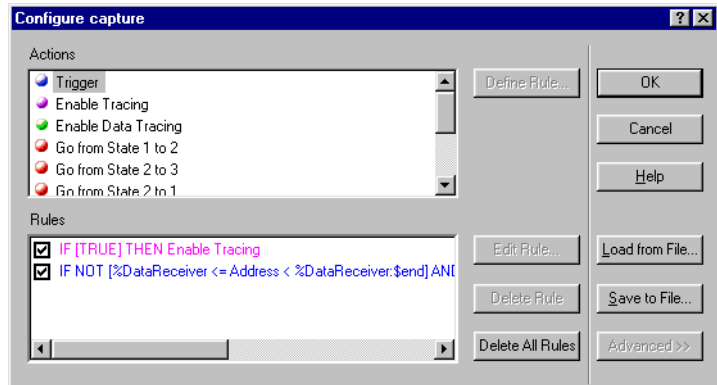

Figure 8-19 Completed Configure capture dialog box
17. Click **Finish** to complete the rule. The Configure capture dialog box shown in Figure 8-19 on page 8-22 now has two rules in the Rules list.